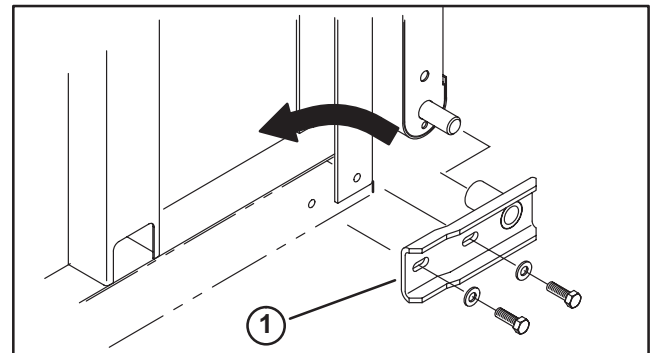

Figure 1
3. Remove capscrews and washers mounting tailgate pivot brackets. Pivot brackets upward into storage position and re-secure with front capscrews. Reinstall rear capscrews securing corners of bed sides to bed (Fig. 1).